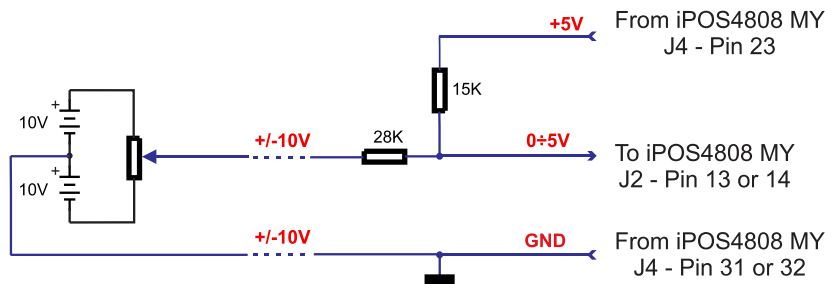

Figure 3.11. +/-10V to 0-5V adapter
1. Default input range for analog inputs is 0+5 V for REF and FBDK. For a +/- 10 V range, see Figure 3.11.